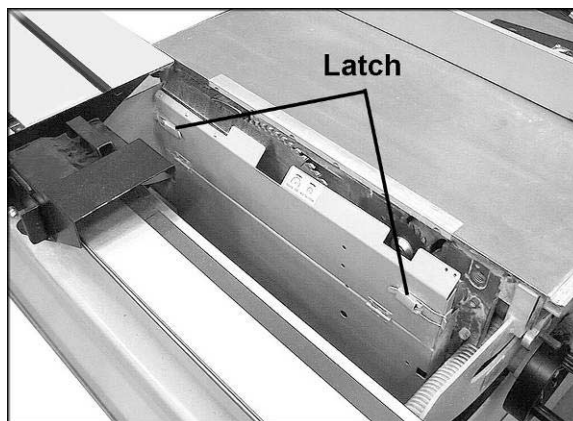
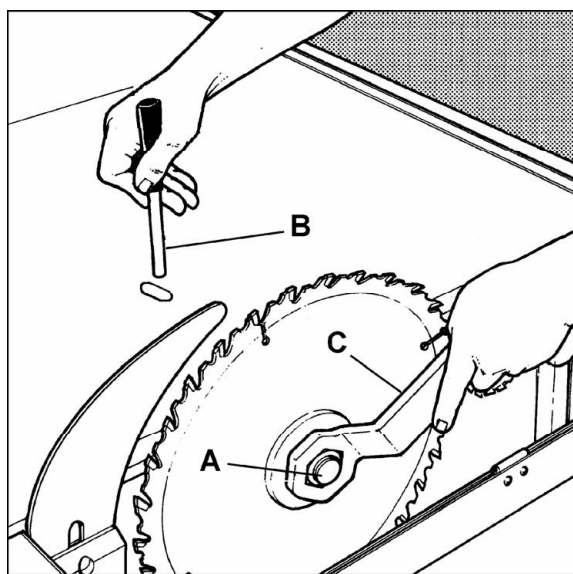

Figure 8
Figure 9
- Release the two latches on the blade cover, shown in Figure 8, and open blade cover.
- Raise main blade arbor to its highest position and place wrench (C, Figure 9) over the arbor nut (A, Figure 9).
- Insert the steel pin (B, Figure 9) into the hole in the cast iron table. Turn the arbor with the wrench until the steel pin (B, Figure 9) engages the hole in the arbor pulley.
- Remove steel pin (B, Figure 9). Close cover and secure both latches (Figure 8).